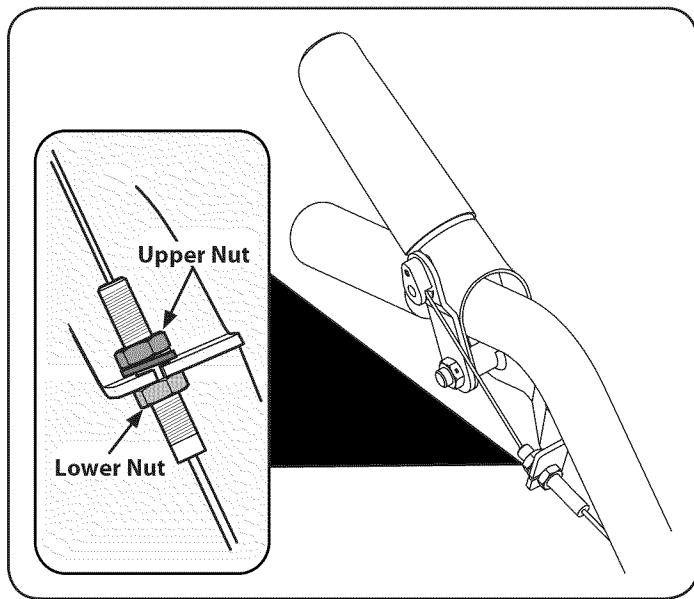

Figure 11
4. If the belt turns without the clutch control engaged, unthread the upper nut and adjust it by unthreading lower nut a few turns clockwise (when standing in the operator's position) and then retighten the upper nut against the cable bracket. See Figure 11.